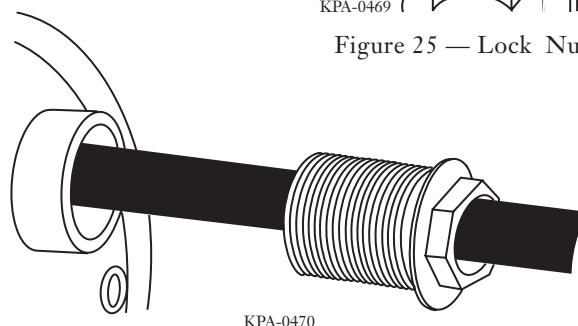

Figure 26 — Compression Screw
**Step 4** Slide the cable through the port (Figure 26).